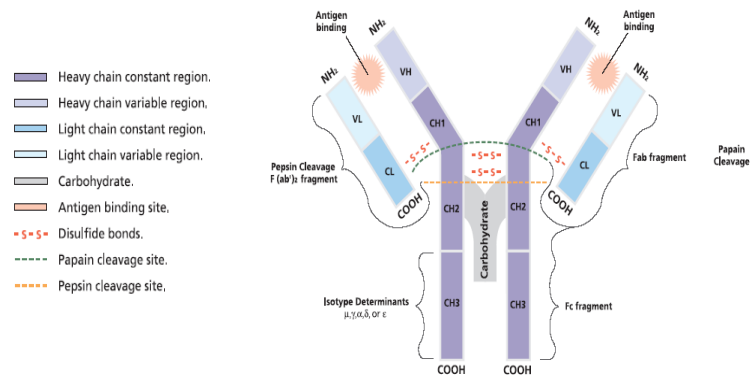

Figure 1: Structure of Immunoglobulins (from Sigma-Aldrich)
All antibodies have the same basic structure (**Figure 1**) but show remarkable variations in the regions of the antigen binding site that is formed by the variable light chain (VL) and variable heavy chain (VH) domains. Every antibody is composed of two identical light chains and heavy chains. The complement and Fc receptor binding sites are located within the heavy chain constant regions.